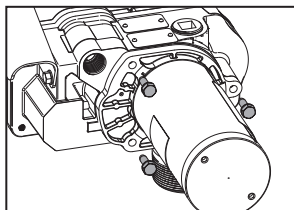

Figure 21
3. Remove the (3) 1/4-20 x 3/4 in. SEMS screws and motor from the pump housing (see Figure 21).